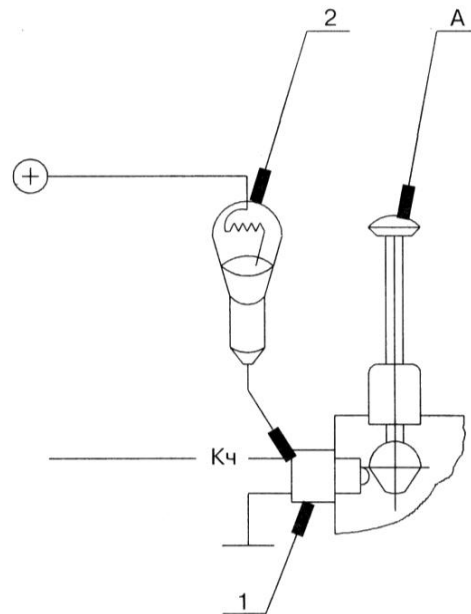

Fig. 7. Checking the operation of the starter interlock switch.
b) Check the operation of the starter interlock switch "SA11" with the gearbox reduction gear engaged (Fig. 7).
- connect one wire of the test lamp to the switch terminal with the wire K4 and stretch out another one to the "+" terminal of the regular storage battery (Fig. 7);